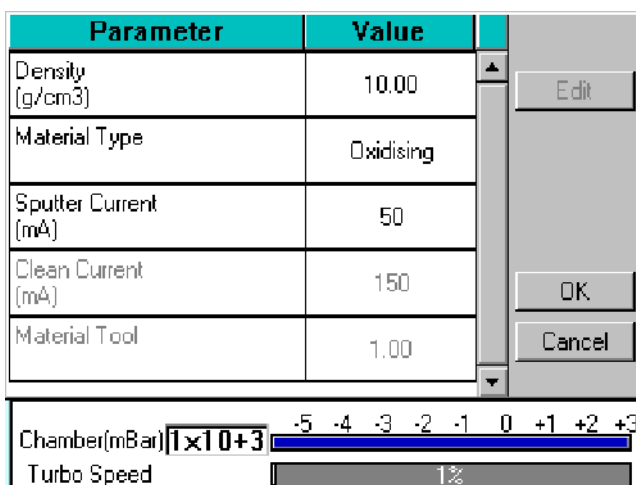

Figure 4-6. Material Parameters
3. Enter a name for the profile: tap in the *Name* field to display the on-screen keyboard (Figure 4-6) in the *Enter Name* dialog box.